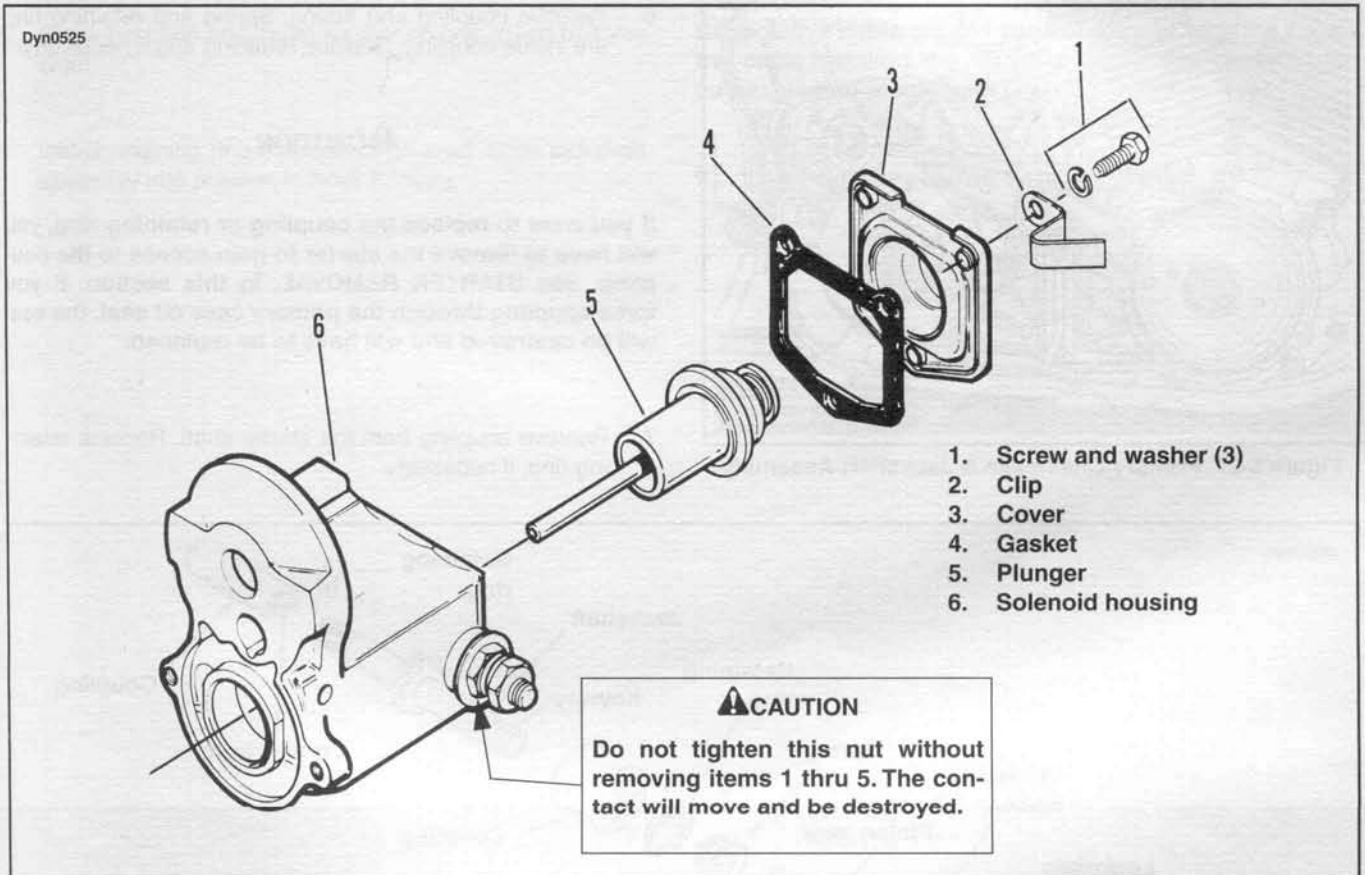

Figure 5-26. Starter Solenoid
1. See Figure 5-26. Replace wire connection hardware as necessary.
2. Apply a light coat of Lubriplate 110 to plunger shaft. Install plunger (5) in solenoid housing (6).
3. Install new gasket (4). Place cover (3) in position and install screws, washers (1) and clip (2).